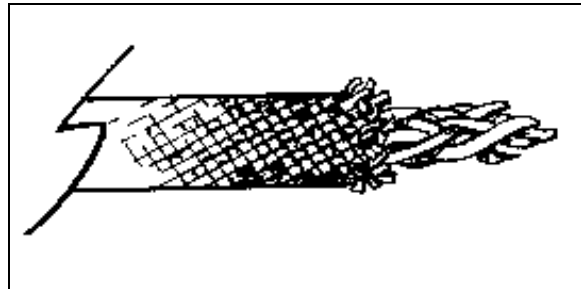

Figure 6-2. Kernmantle (core and sheath) rope.
(2) *Kernmantle ropes.* These ropes are similar to their static counterparts in that they consist of an inner core and an outer sheath. The core is constructed of continuous twisted nylon filaments, which are laid or braided together and enclosed in a tightly braided outer sheath. These ropes are well suited for climbing on rock, snow, or ice where a brief elastic stretch of the rope occurs during a fall. They have a stretch of about 40 percent at the point of failure. The breaking strength is high, and there are no exposed strands for rock crystals to work between to damage the rope (Figure 6-2). There is less sliding friction through the snaplink and over other surfaces, since the outer sheath is smooth. Kernmantle ropes are available in many sizes, lengths, stretch factors, tensile strengths, and fall ratings.